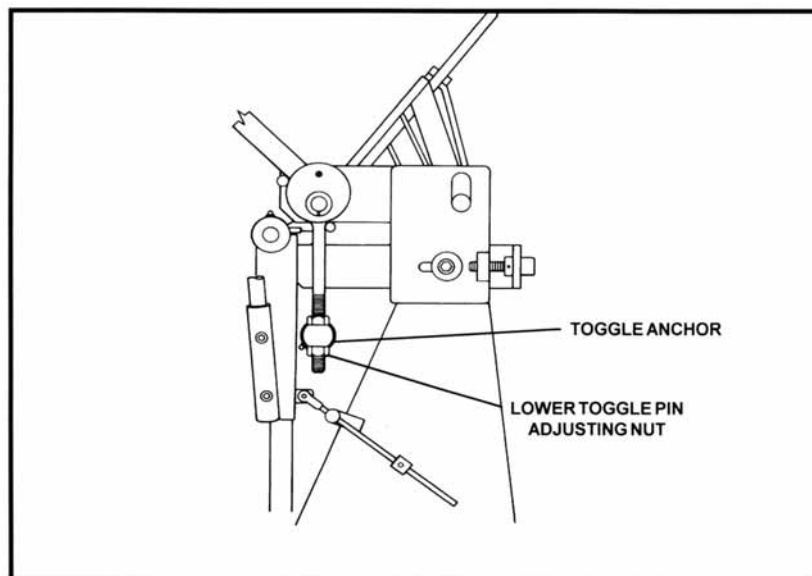

Figure 10. Upper Beam Clamp Adjusting Components
It also requires reducing clamping pressure to allow for multiple thicknesses of material. Reduce clamping pressure by slackening the lower toggle pin adjusting nut and tightening the upper toggle pin adjusting nut (See Figure 10).
2. Lower the upper beam onto the bed. Loosen lower toggle pin adjusting nut until there is 1/4-in. of space between bottom of the toggle anchor and the lower toggle pin adjusting nut (see Figure 10).